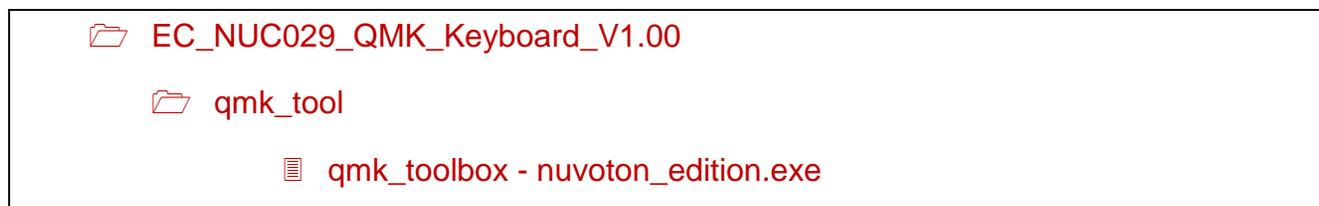
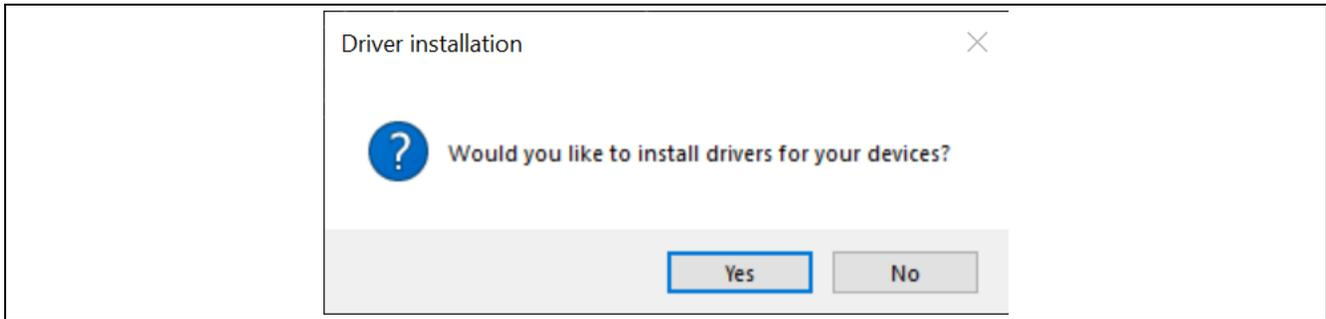

Figure 5-30 QMK Toolbox (Nuvoton Edition) File Path
Figure 5-31 Ask to Install Drivers for Devices (But Not for Nu_DFU Device)
- Open QMK Toolbox (Nuvoton Edition) in this example code. The file path is shown in Figure 5-30. If a message about asking to install drivers for devices is shown after opening QMK Toolbox (Nuvoton Edition), as shown in Figure 5-31, note that the driver that is asked to be installed at this time is applicable to other QMK supported devices, but not for the Nu_DFU device. The driver of Nu_DFU device needs to be installed manually, but user can decide whether to install other device drivers here.